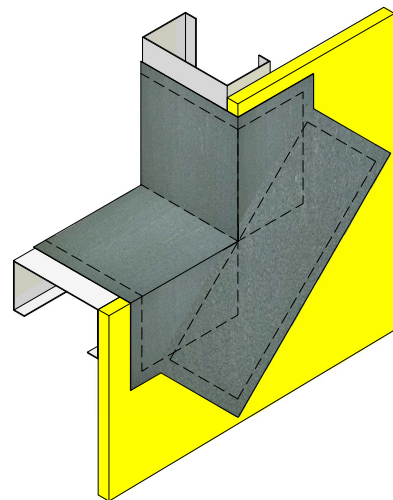

Figure 10
6. Apply additional Finestop RA/RS/VB onto the Sheathing Fabric to embed. Verify Sheathing Fabric is smooth, free of wrinkles, and voids. (See Figure 10)